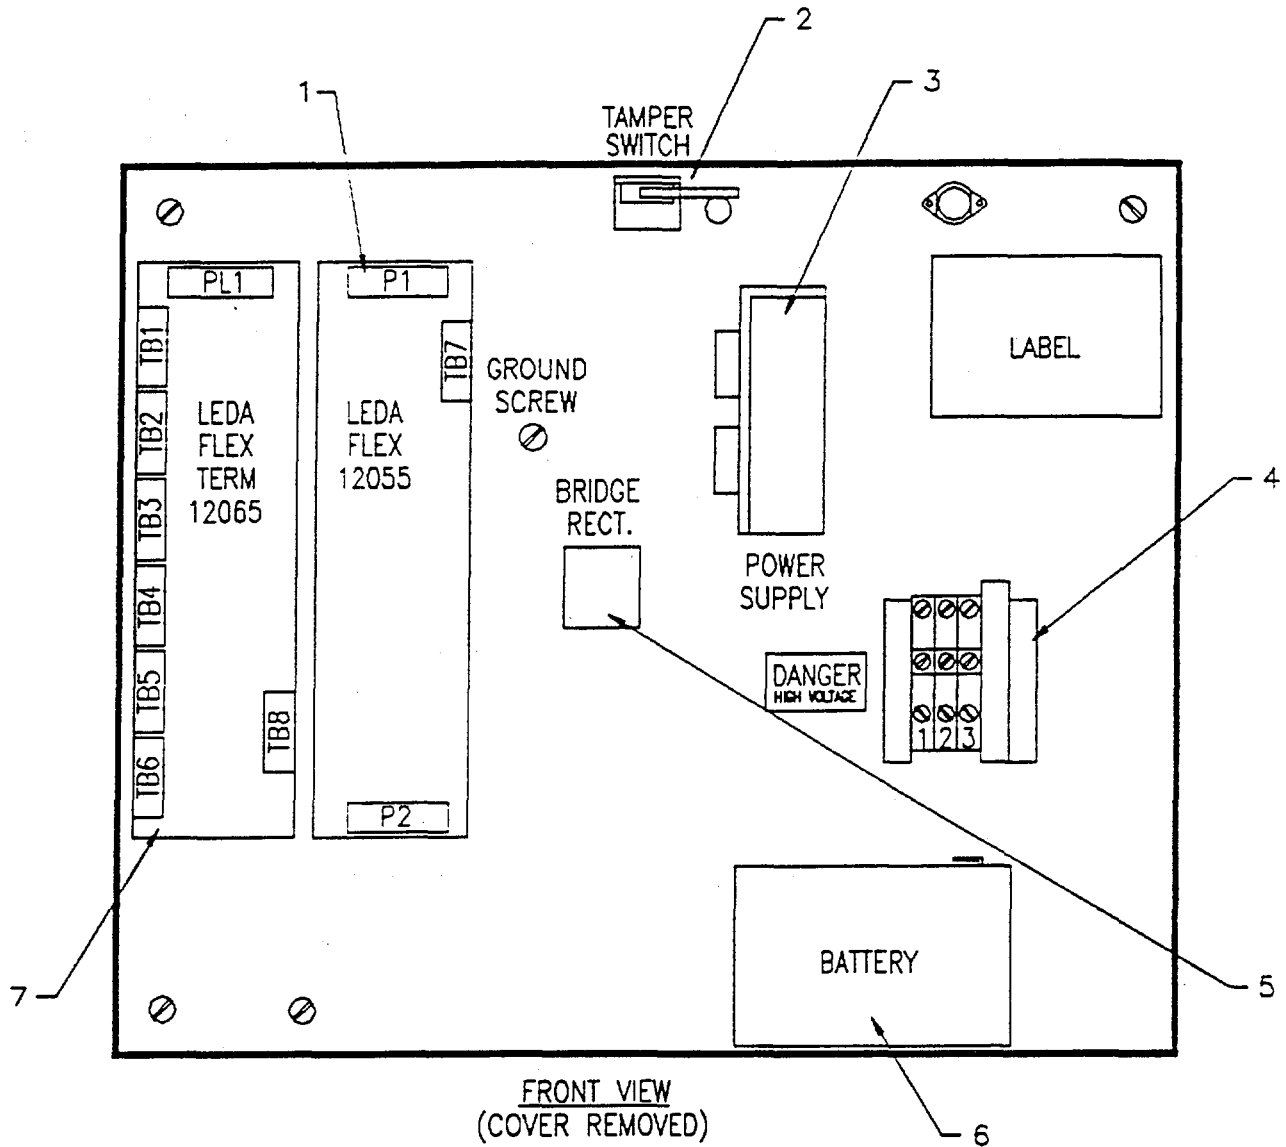

Figure 1-11. SubRADC (LEDA) with Power Supply, 12 Points, Interior
g. SubRADC (Leda) with Power Supply, 12 Points, (Interior) (See Figure 1-11).
- (1) **Leda Flex PWA (item 1).** Used to connect up to 12 additional sensors via the termination PWA to the RADC via AUX-0 port. The Leda operates from 12 vdc provided by the in-house power supply.
- (2) **Tamper Switch (item 2).** Provides protection against unauthorized entry of the Sub RADC (Leda) enclosure by generating an alarm via the RADC to the operator work station.
- (3) **12 vdc Power Supply (Item 3).** Provides operating power for the LEDA Flex PWA, Leda Flex Termination PWA, and external sensors, if required.
- (4) **Input AC Power Terminal Block (fused) (Item 4).** Provides the Interface between the 120 vac input power source and the power supply, while providing overload protection on the main input power line.
- (5) **Bridge Rectifier (Item 5).** Provides 12 vdc input for the LEDA Flex PWA operation. Provides the interface for AC input power loss signal going to the Termination PWA TB-6.
- (6) **Battery, 12 vdc, 7 amp hr. (Item 6).** Consists of a lead acid maintenance free battery. The battery provides for 7 hours of system backup and takes 12 hours to be fully recharged once the battery has been completely drained.
- (7) **Leda Flex Termination PWA (Item 7±).** Provides a means to interface 12 additional devices to the LEDA PWA.